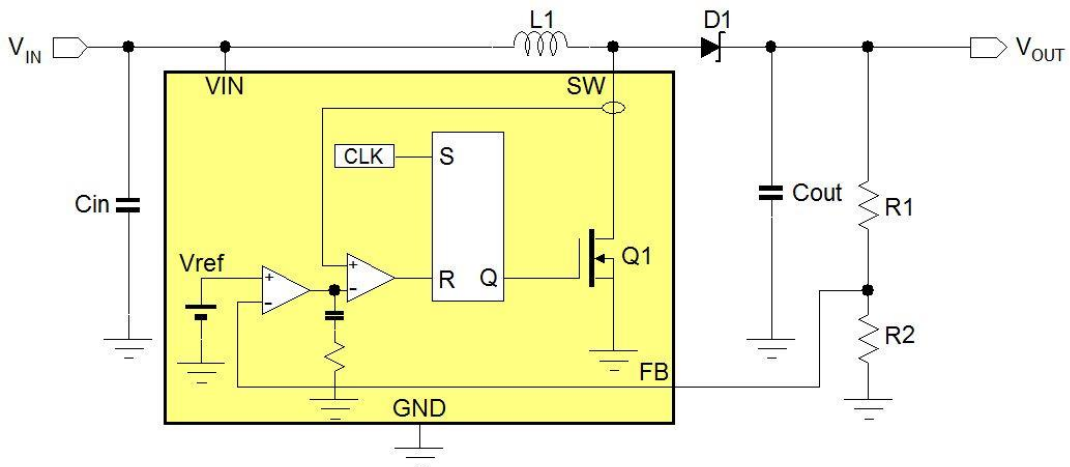

Figure 4. Basic Boost converter schematic
**Boost converters** are used when  $V_{OUT}$  needs to be higher than  $V_{IN}$ . The basic circuit is shown in Figure 4.